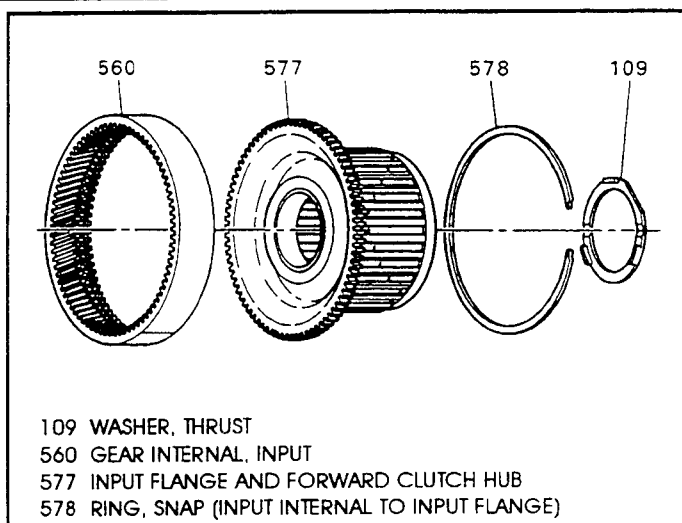

Figure 120
21. Inspect the input internal ring gear and forward clutch hub splines, bushing and thrust washer for wear and/or damage (See Figure 120).
22. Assemble the input ring gear onto the forward clutch hub and install the snap ring as shown in Figure 120.
23. Install the thrust washer (109) onto the forward clutch hub and retain with a generous amount of "Trans-Jel" (See Figure 120).